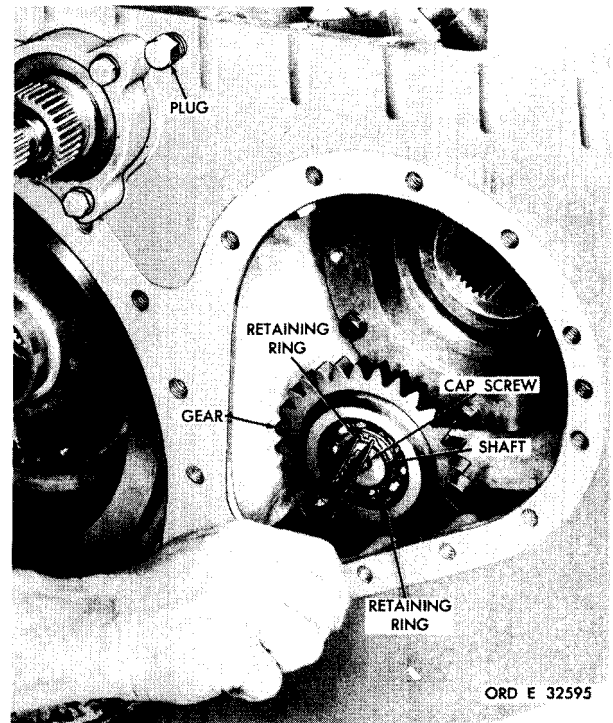

Figure 176. Removing (or installing) snap ring which retains brake coolant pump idler gear
e. Remove the retaining ring that retains brake coolant pump idler gear and bearing on the idler gear shaft (fig. 176). Remove gear and bearing.
f. Remove the retaining ring that retains the bearing in the brake coolant idler gear (fig. 176). Remove the bearing from the gear.
g. Using a 9/16-inch wrench, remove the shaft retaining cap screw (fig. 176). Using a slide hammer remover, remove the brake coolant pump idler gear shaft.
h. Using a square 5/16-inch wrench, remove the socket-head plug (fig. 176).